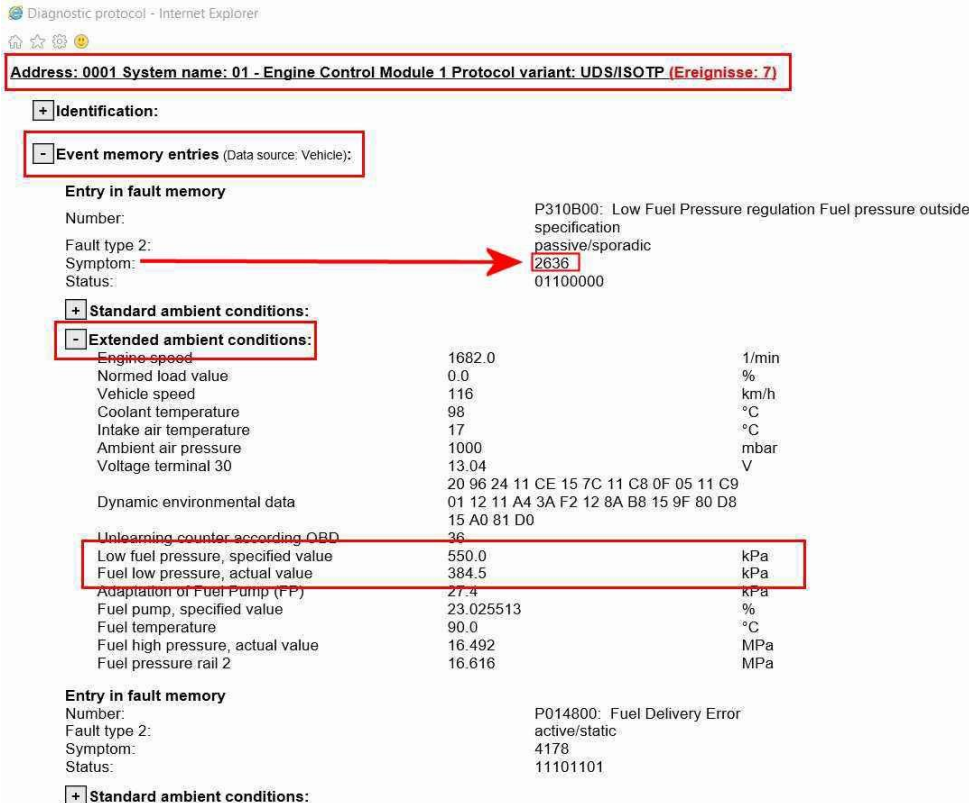

Figure 1
2) Check “Low fuel pressure, specified value” and “Fuel low pressure, actual value” within the fault memory, refer to ECU “01 – Engine Control Module 1” - From “Extended ambient conditions” note the values of the “Low fuel pressure, specified value” and “Fuel low pressure, actual value ” as shown in Figure 1.